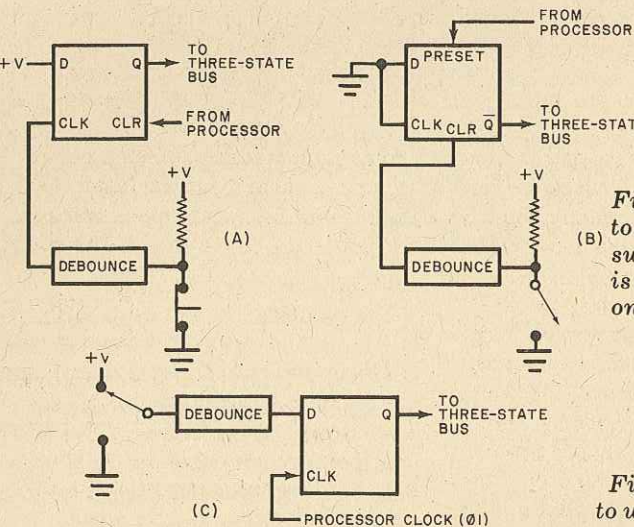
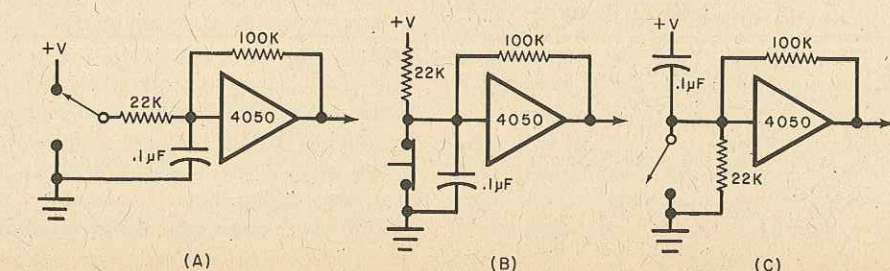

Fig. 8. Three ways, left, to debounce mechanical switch. In all, response is same, but effect on system is different.
Fig. 9. Below are 3 ways to use CMOS to debounce a mechanical switch.
*IC's are identified by letter "U" in parts placement guide in Fig. 8.
Construction. The only practical way of assembling the controller part of the system is on a double-sided printed circuit board. The etching-and-drilling and component-placement guides for the board are shown in Fig. 8. Sockets are
Sample Interface. The most common man-machine interface element is a basic switch. Three ways to use a switch and a flip-flop to input data to a processor are shown in Fig. 8. In each case, a 7474 or 4013 will work; and the three examples show how different system responses can be obtained by setting the flip-flop output to logic 1 by various means. In each case, the immediate response to the switch closure is the same, but the effect on the processor system is different. An example of each type debouncing is shown in Fig. 9.